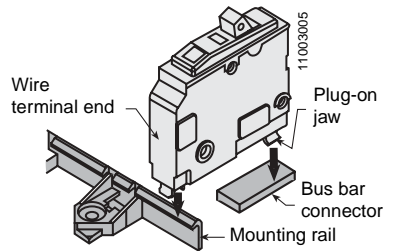

Figure 7: QO Branch Circuit Breaker
2. To disconnect the plug-on jaw from the connector and mounting rail, pull the circuit breaker outward until it disengages from the mounting rail. See Figure 7.